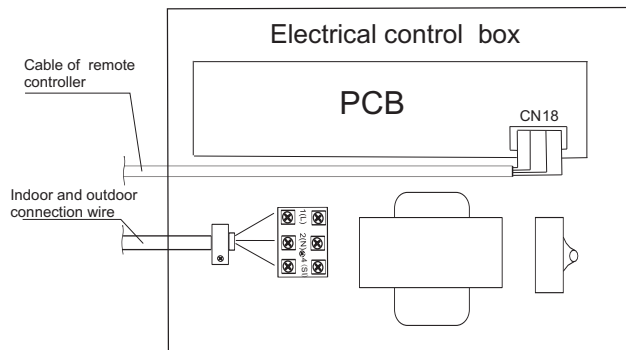
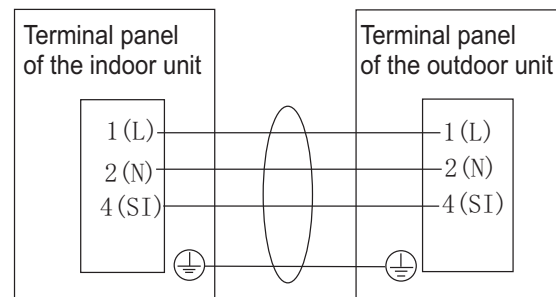

Fig.6.2
Fig.6.3
- (2) As shown in Fig. 6.2 Fig. 6.3, Connect the indoor and outdoor units connection wire to the main terminal, Cable of remote controller to the PCB board CN 24.
- (3) Tie the wire in the control box with the clamp tightly.
- (4) After finishing the wiring, seal the wiring hole with the sealing material (with the lid) to prevent the condensed water and insects entering.